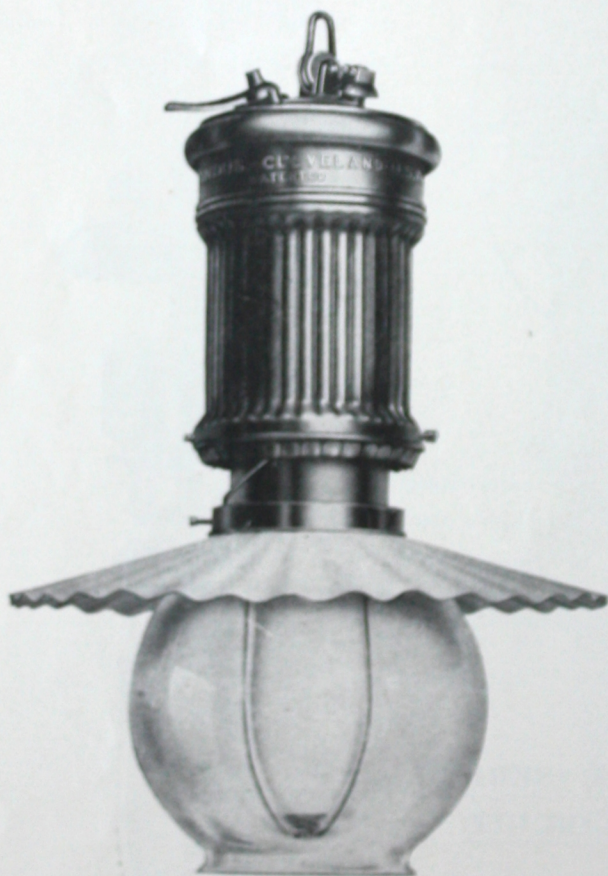

Figure 83
**Outer Globe.** For street lighting this lamp is fitted with an outer globe, open at the bottom. It can be used in combination with shade as shown in Figure 83. In trimming, this globe is not disturbed, thus rendering the operation quick and simple.
**Details.** The regulation of this lamp is very fine, leaving nothing to be desired. The same long life is obtained, depending upon the amperage adjustment. At 6.6 amperes the lamp gives 175 hours, and at 7 amperes, 150 hours, a result unapproached by any other series alternating lamp. For street lighting, the lamp is fitted with porcelain enameled steel reflector and outer globe, open at the bottom, so that the hand may be freely inserted for trimming without disturbing the outer globe (Figure 83).